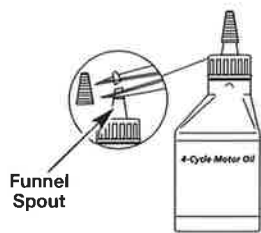

Fig. 6
The unit is supplied with one 3.04 fluid oz. (90 ml) bottle of SAE 30 SF, SG, SH oil (Fig. 6).
- Unscrew the top of the bottle of oil and remove the paper seal covering the opening. Replace the top. Next, cut the tip off the funnel spout (Fig. 6).